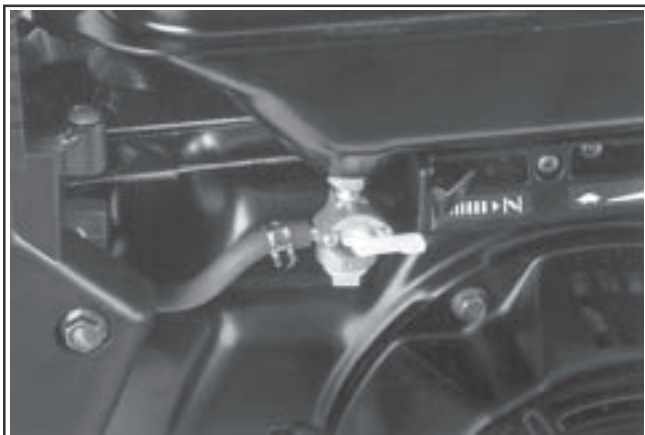

Figure 9-2. Fuel Shut-Off Valve.
1. Make sure the fuel tank is empty. If the fuel shut-off valve is mounted directly to tank, close the valve. See Figure 9-2.